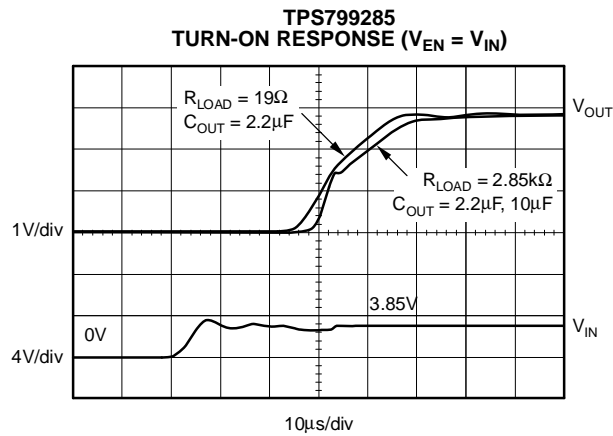
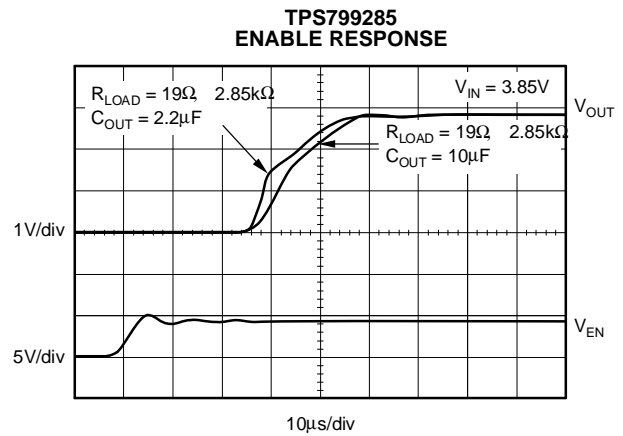

Figure 25.
Figure 26.
Note that for fastest startup, V_{IN} should be applied first, then the enable pin (EN) driven high. If EN is tied to IN, startup will be somewhat slower. Refer to Figure 25 and Figure 26 in the **Typical Characteristics** section. The quick-start switch is closed for approximately $135\mu\text{s}$. To ensure that C_{NR} is fully charged during the quick-start time, a $0.01\mu\text{F}$ or smaller capacitor should be used.